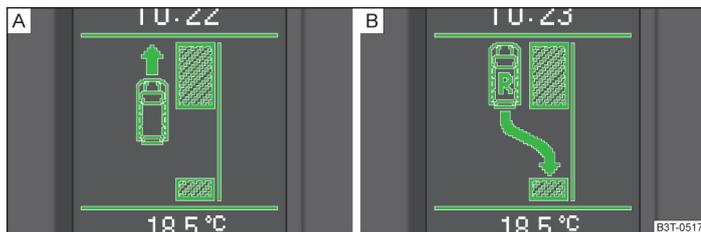

Fig. 103 Information display: Parking space detected including the information to continue driving **A** and to engage reverse gear **B**
- If the park assist system has recognised a suitable parking space, it is shown in the information display » Fig. 103 - **A**.
- Continue driving forwards until the display » Fig. 103 - **B** appears.